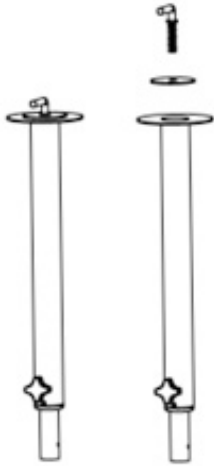

Fig. 1
5. Remove the screw of the socket fastener No. 10 and the washer No. 9 from the underside of the outer tube No. 7 (Fig. 1).
6. Insert the outer tube into the base No. 8 (nose on the stand tube and recess in the base must lie inside each other, Fig. 1) and turn both over while holding on to the outer tube.